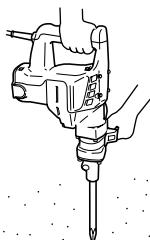

Fig. 5
**2. How to chisel or demolish (Fig. 5)**